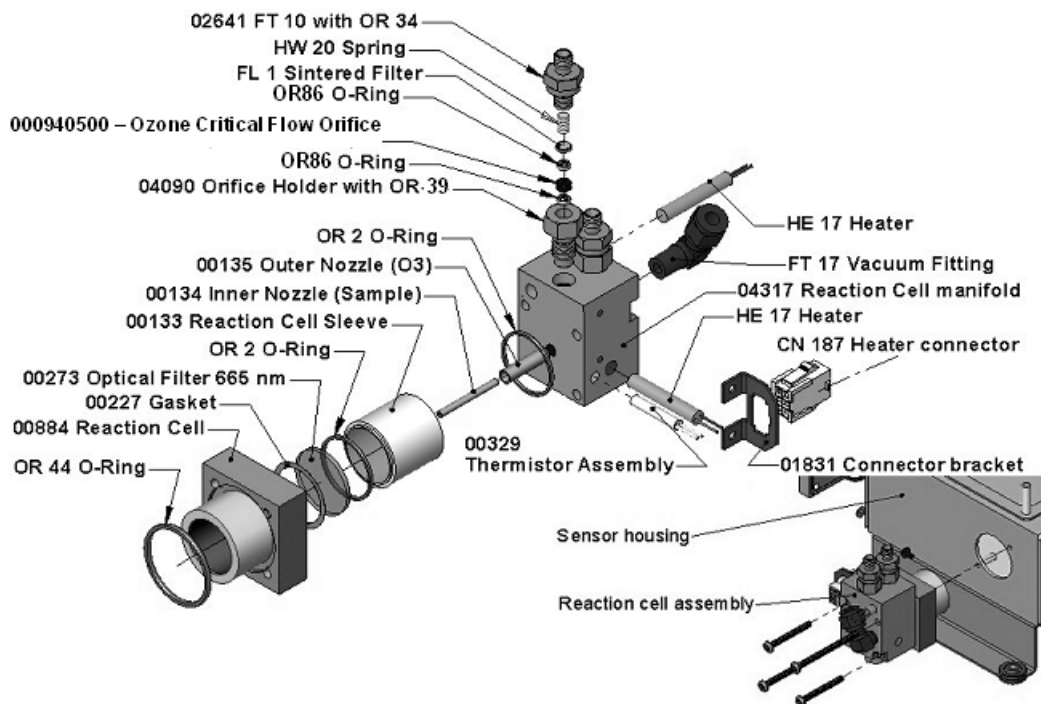

Figure 9-5: Reaction Cell Assembly
1. Turn off the instrument power and vacuum pump. Refer to the Figure 9-5 for the following procedure.
3. Remove four screws holding the reaction cell to the PMT housing and lift the cell and manifold out as shown in the inset of Figure 9-5.
1. Turn off power to the instrument and vacuum pump. Remove the analyzer cover and locate the reaction cell (Figure 9-5, Figure 11-22 and Figure 3-4).
3. For orifices on the reaction cell (Figure 9-5): Unscrew the orifice holder with a 9/16" wrench. This part holds all components of the critical flow assembly as shown in Figure 9-7. Appendix B contains a list of spare part numbers.